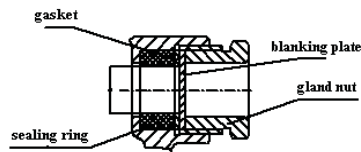

Fig.3 Cable inlet sealing structure
2.1.1 First, open the case cover; put power cable and control cable respectively through "wiring inlet structure" and into the control case. Please see Fig.3 for wiring inlet structure.